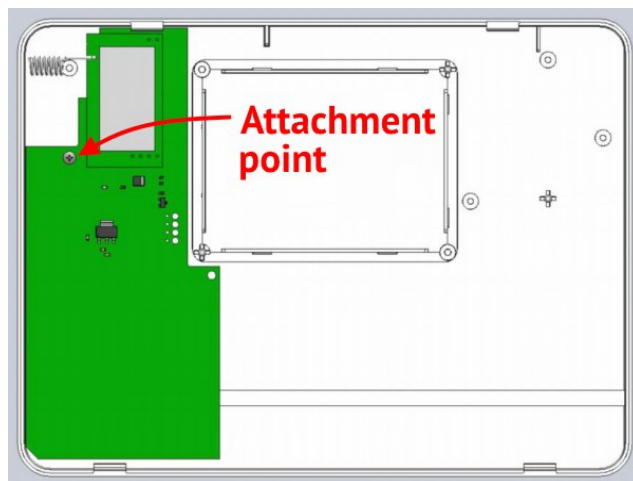

Figure 22. Radio module
- “Adapter L25-CROW rev.3” – inside the Control Panel housing, as shown in Figure 22;